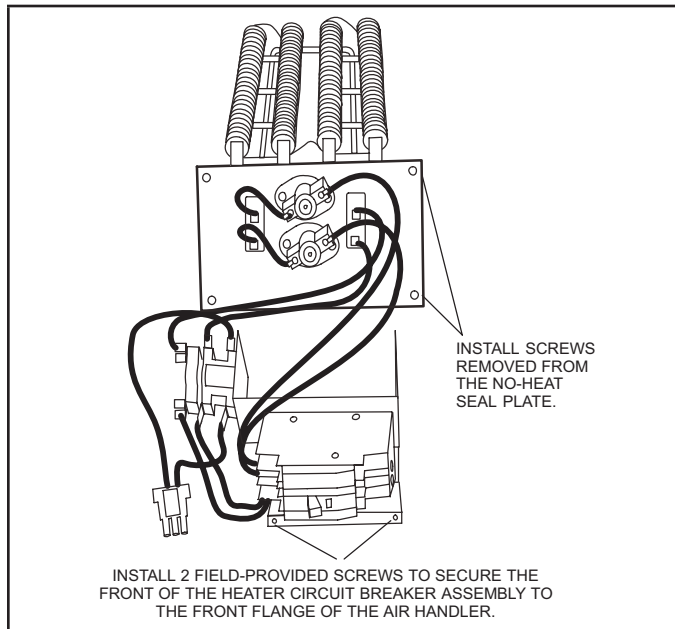

FIGURE 5. Installing the Heat Element Assembly
- 6 - Secure the electric heater assembly into place with the screws that were removed from the heat element panel. Install two field-provided #8 SDST screws in the front of the electric heater assembly (see figure 5).